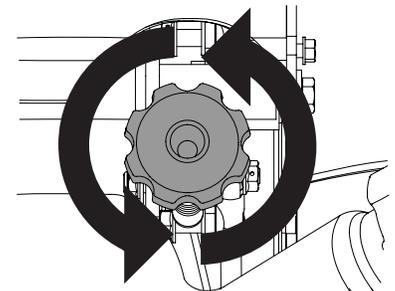

Figure 4-25
1. If the mower tracks (pulls) to the right, rotate the tracking knob to the left in 1/4-turn increments until the mower tracks straight. See Figure 4-25. Turn left to go left.
2. If the mower tracks (pulls) to the left, rotate the tracking knob to the right in 1/4-turn increments until the mower tracks straight. See Figure 4-25. Turn right to go right.